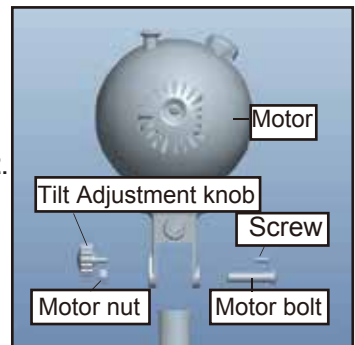

Figure 6.
1. Remove the **Tilt Adjustment Knob** first. Then remove the **Motor Nut** and **Motor Bolt**. Loosen the **Screw** above the **Motor Bolt**. *Figure 6*.